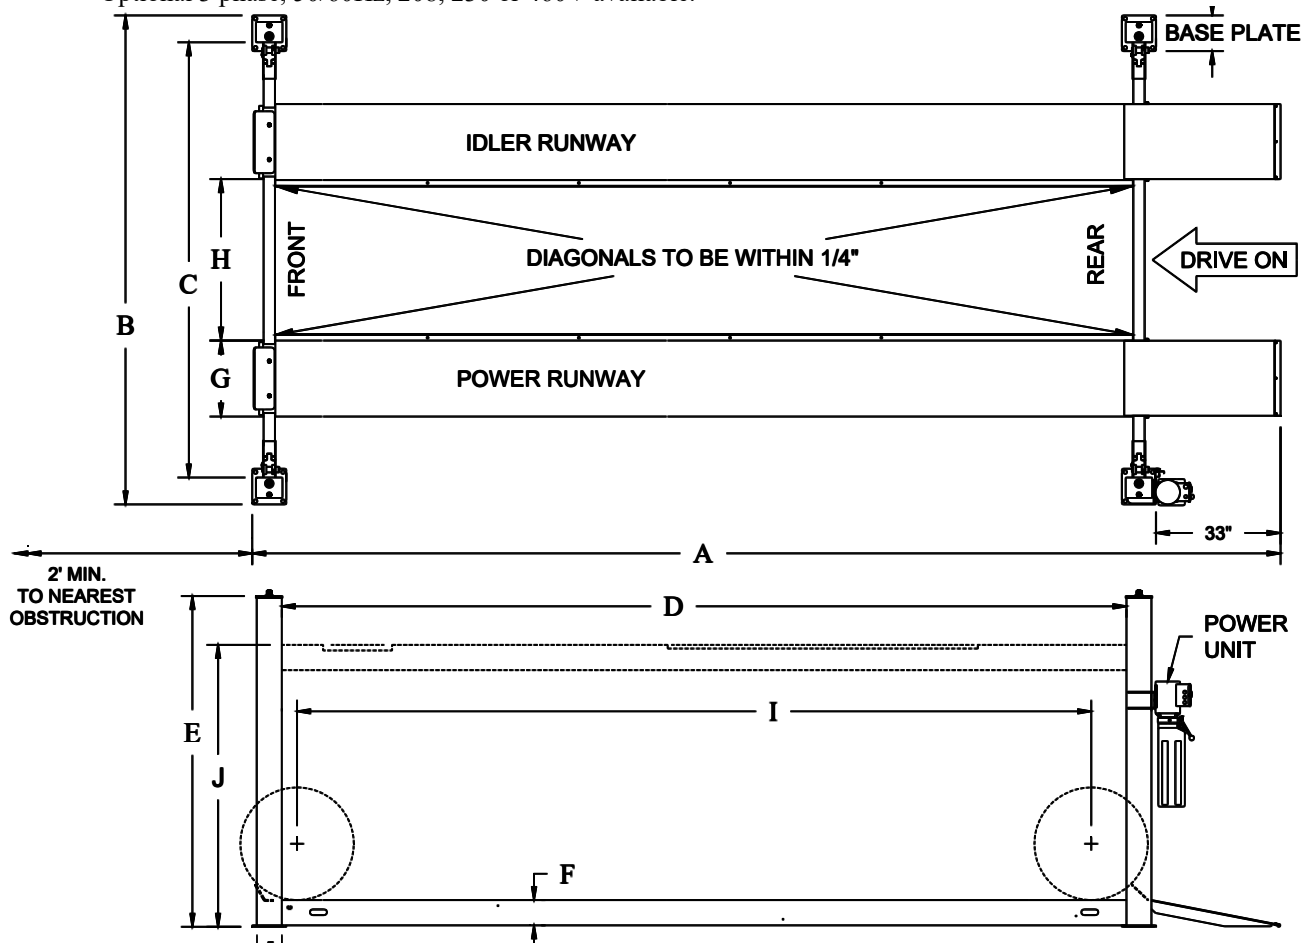
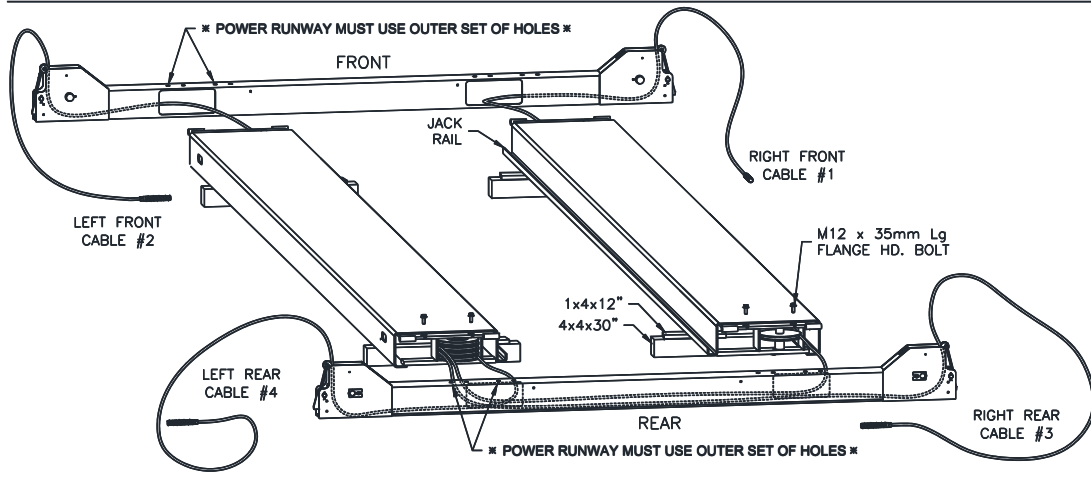

Fig 1 – General Specifications and Service Bay Layout
Fig 4 – Runway Layout
- 1) Lay out the service bay according to the architect's plans or owners instructions, **Fig 1**. Be certain that the proper conditions exist, see page 3.
- 3) Position runways on blocking (see Fig 4) per layout lines established in step 1. Use four 30" long 4x4's spanning the width of the runway and four 12" long 1x4's to shim up the jack-rail side
of the runway. Cable #1, #3, & #4 should be extending out from the rear of the power runway and cable #2 from the front of the power runway, Fig 4.
- 4) Position the front and rear cross beams, Fig 4. (Both cross beams are identical.)
- 5) Reach in through either of the access holes in the cross beam tube and pull out the roll of 4mm dia. plastic air line connected to the air cylinder at the end of the cross beam. Repeat for opposite access hole and position the cross beam near the end of the runways as in Fig 4.
- 13) Attach both cross beams to the runways (**Fig. 4**) with M12 x 35mm lg. flange head bolts (two at each end of each runway) being careful not to pinch the air line. Leave the air lines hanging out the bottom of the cross beam access holes at this time, they will be fed in through the runway after the lift is raised. **The outermost power runway slots should be in line with the outermost holes in the top of the cross beam, see Fig. 4.** The idler runway can be installed using the outer or inner sets of cross beam holes, see “Width Between Runways” dimension in **Fig. 1**. Do not torque bolts yet.